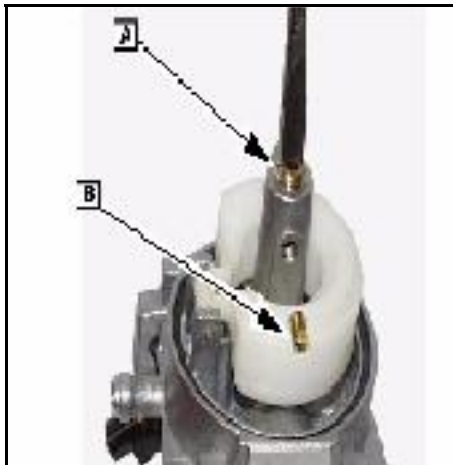

Fig. 42
**CAUTION:** Emulsion tube ([A] fig. 42) must be installed before main jet ([B] or damage to the threads of the emulsion tube will result.
9. Install emulsion tube (A) with screwdriver #19061. Install main jet ([B] Fig. 42).